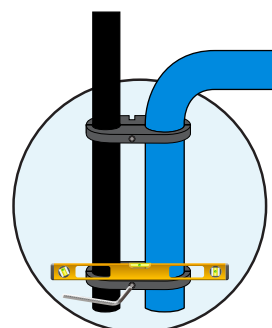

Fig 4.
5. Ensure that both the clamps are horizontal by using a spirit level, once level tighten up the bolts. (Fig 4)